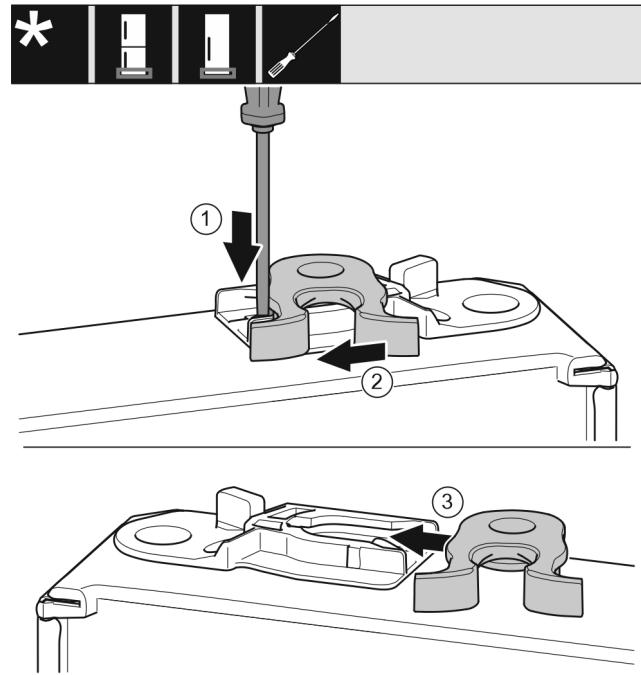

Fig. 17 *
- Push the lug downward with a slotted screwdriver. Fig. 17 (1)*
- Pull the door latch out of the guide. Fig. 17 (2)*
- Push the door latch into the guide on the other side. Fig. 17 (3)*